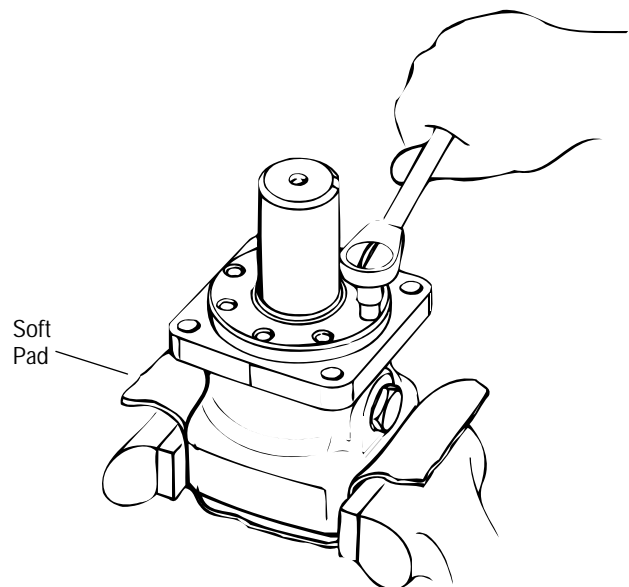

Figure 7
- 20 Place bearing housing in vise, as shown in Figure 7. Loosen 8 cap screws (5/16 inch) in retainer.
8 Lubricate threads of 8 cap screws with a light film of oil. Install and finger tighten screws. Place unit in a vise, as shown in Figure 7. Tighten cap screws to 34 Nm [300 lb-in] of torque – in the sequence shown in Figure 13.